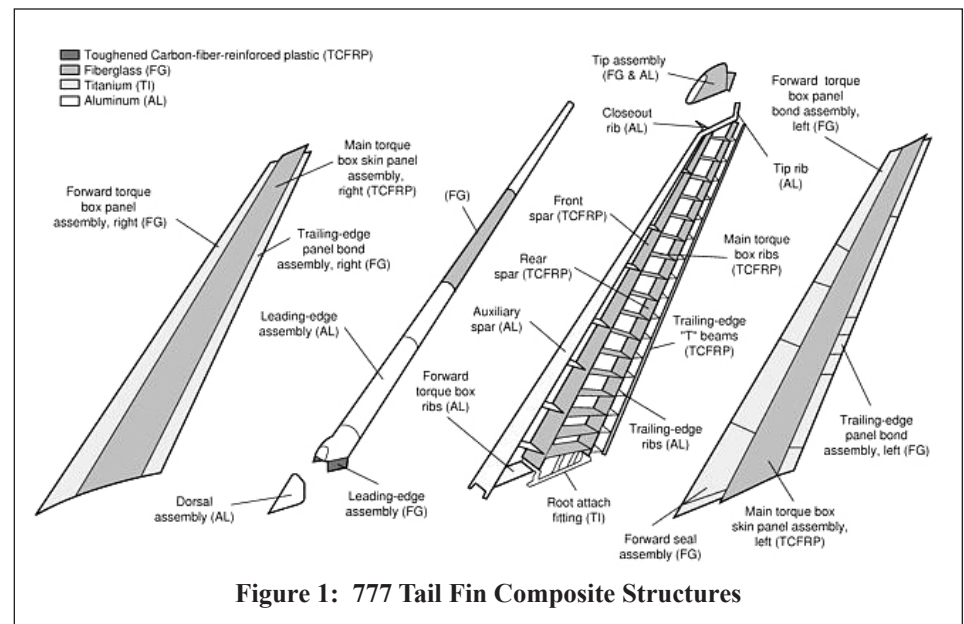

Figure 1: 777 Tail Fin Composite Structures
- Boeing 787 - center wing box, wing skins, spars, stringers, fixed leading edge, vertical stabilizer, 777 – horizontal stabilizer, 747 - titanium landing gear components - see Figure 1 below